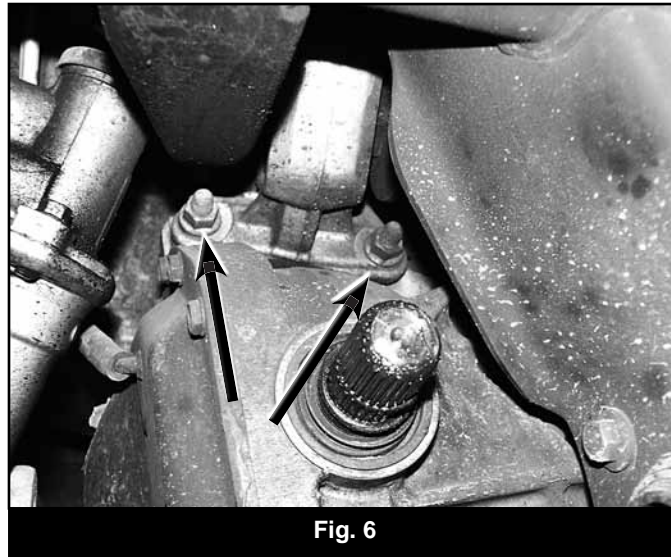

Fig. 6
35. Using a jack, support the differential. Loosen and remove the two forward-most differential mounting bolts on the driver's side (Fig 6). Loosen but do not remove the three rear driver's side bolts (Fig 7) and the two passenger's side bolts (Fig 8).